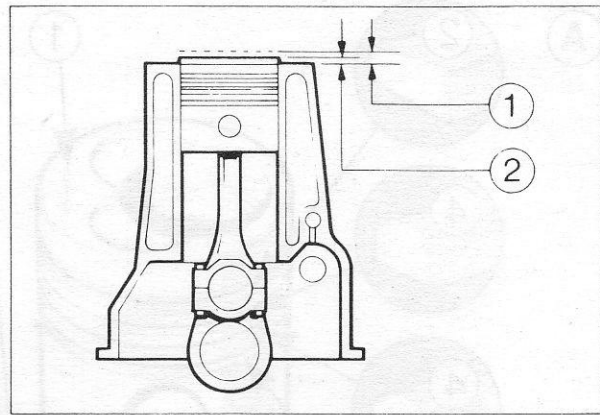

Fig. 43 - Piston Protrusion
51. Measure and record the protrusion of the piston above the face of the block in at least three places and note the maximum and minimum protrusion (Fig. 43). Calculate the average of the three readings. If the figure is within the specified limits for piston protrusion the existing connecting rod length is satisfactory. If, however, the piston protrusion is outside the limits with the grade of rod fitted, it will be necessary to remove the piston and rod assembly and install a longer or shorter grade of rod as required. Refer to specifications, for rod grades.